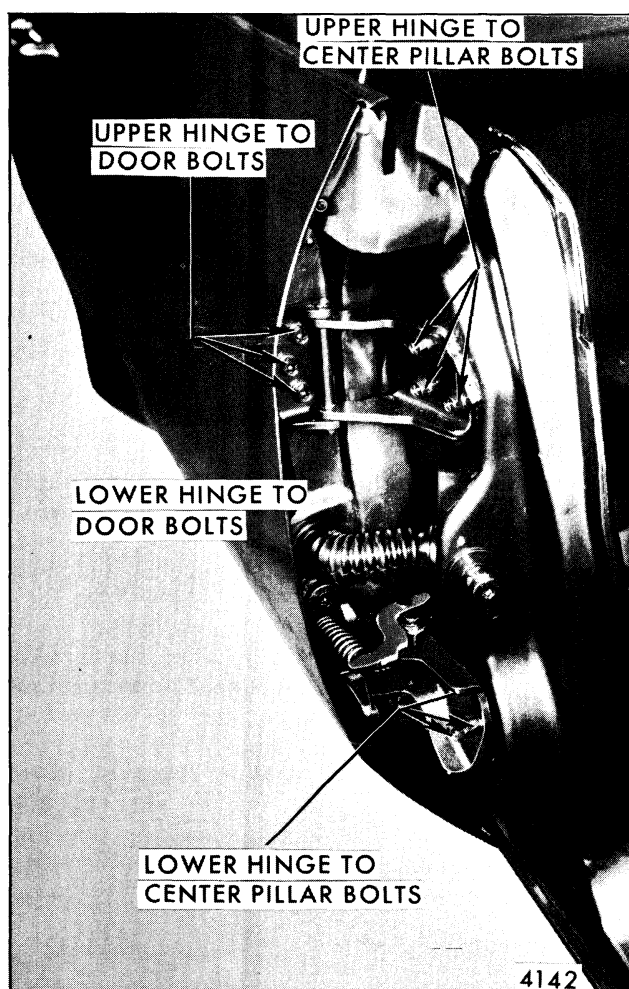

Fig. 5-121-Typical Rear Door Hinge Installation
3. With door properly supported, loosen upper and lower hinge attaching screws or bolts from door or center pillar and remove door from body. Figure 5-121 is typical of rear door hinge attachment.